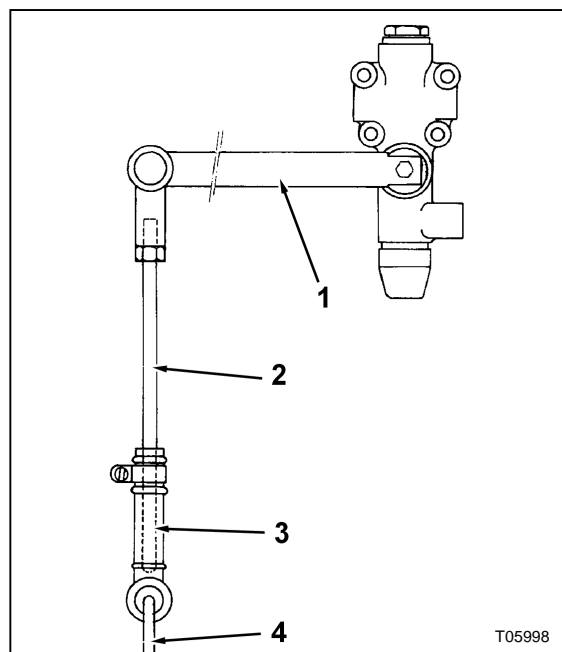

Figure 15: Leveling valve linkage
- 10) With the aid of an assistant, check the hose installation. Proceed as follows. Disconnect the rubber coupling, which attaches the front axle leveling valve linkage to the suspension (see Figure 15). Cycle the suspension from high to low by moving the control arm up and down with the retaining rod. Check that the brake hose installation is free of twist, torsion or strain. Correct as necessary. Reconnect the rubber coupling. Turn the front wheels from lock to lock. Check installation again for twist, torsion or strain. Correct as necessary.